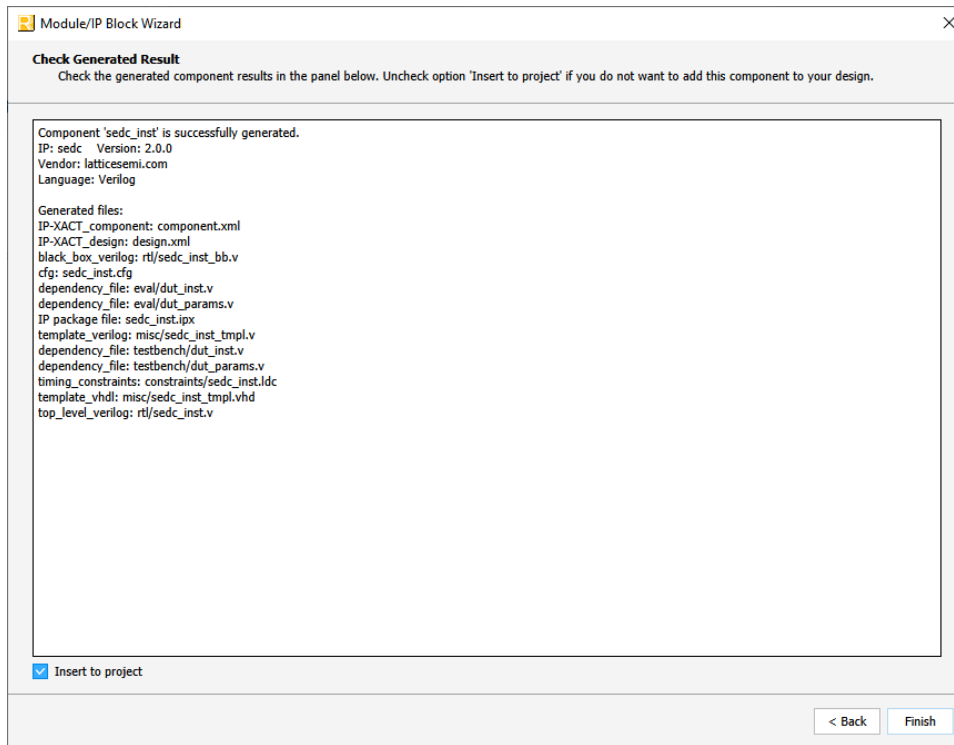

Figure 3.4. SEDC File List
- Click **Generate**. After generation, the IP is automatically added to the active project as shown in Figure 3.4.